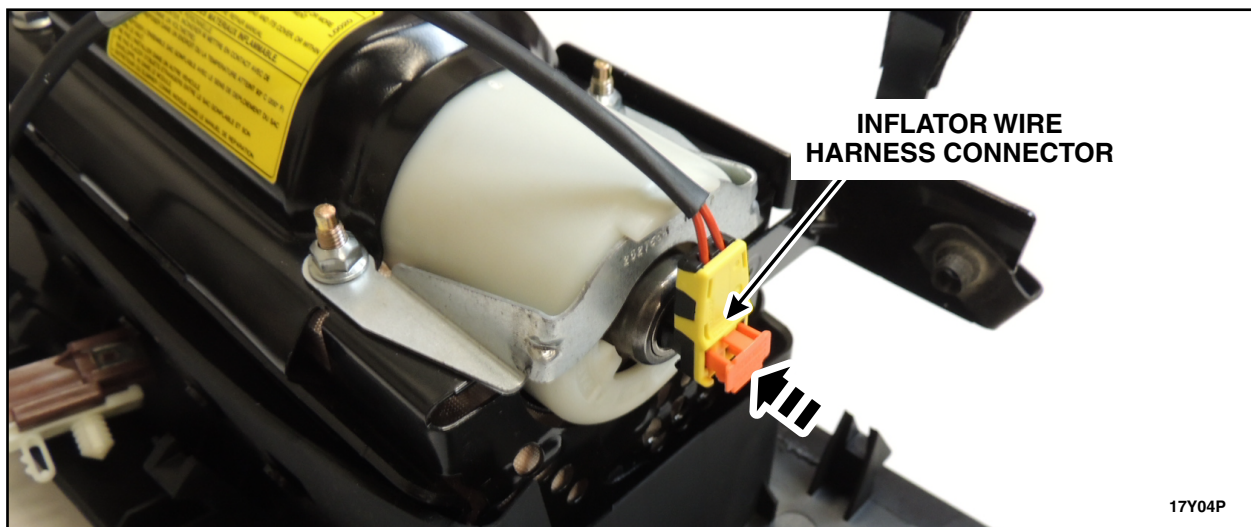

FIGURE 12
12. Align the T-shape index on both the wiring harness electrical connector and the airbag inflator, connect the *new* airbag wiring harness to the inflator module and fully seat the orange tab. See Figure 12.
13. Ensure the connection between the wiring harness electrical connector and the airbag inflator by pulling gently on the connector to ensure it is properly seated. See Figure 12.